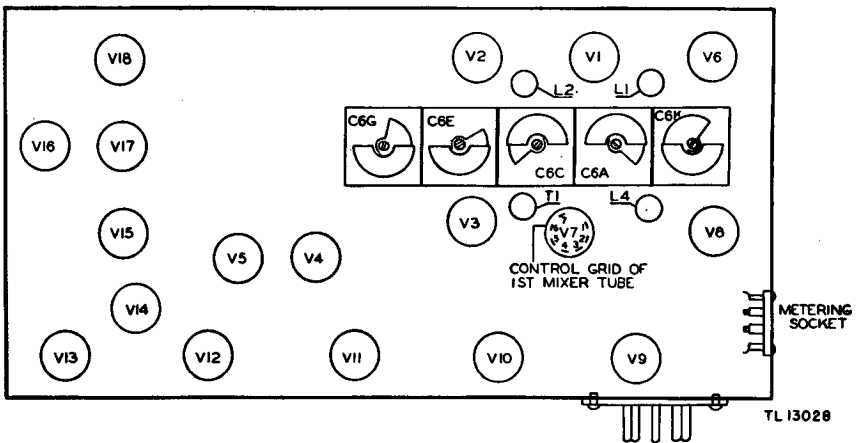

Figure 86. Radio Receiver and Transmitter BC-1000-A, alignment instruction detail—bottom view.
d. ALIGNING INTERMEDIATE-FREQUENCY AMPLIFIER. (1) With the VTVI VOLTAGE SELECTOR SWITCH SW1 set in the 4.5-volt position, open the shadow angle of VTVI by adjusting the calibrate knob.
(2) Insert the test probe in pin No. 2 of the metering socket and fasten the alligator clip to the chassis.
(3) Connect Oscillator VO-6-() by fastening one alligator clip on the flexible lead of the terminal box to the chassis, and the other alligator clip to the grid (pin No. 6) of the first mixer tube V7. (See fig. 86.)
(4) Set the HI-LO switch of the oscillator terminal box (dummy load) to the LO position.
(5) Increase the output by turning the attenuation control (marked INCREASE) of the oscillator to the right just far enough to change the angle of the shadow. If there is no indication, set the HI-LO switch of the oscillator terminal box to HI. If there still is no indication, disconnect Oscillator VO-6-(), and set L6-2, L6-1, L5-3, L5-2, and L5-1 so that the adjusting screws are extended approximately $\frac{1}{4}$ inch above the locknuts. With the receiver turned to full volume, adjust the
(2) Turn the TUNING knob until C between channels 36 and 37 is directly under the indicator line. Press the switch on Handset TS-15-() and, with the handset to the ear, adjust trimmer C6G for zero beat. (See fig. 86.) The proper rotor-plate position is about three-fourths meshed. Check calibration on channel 15. If zero beat is not obtained on channel 15, oscillator inductance must be adjusted. (See par. 111.)